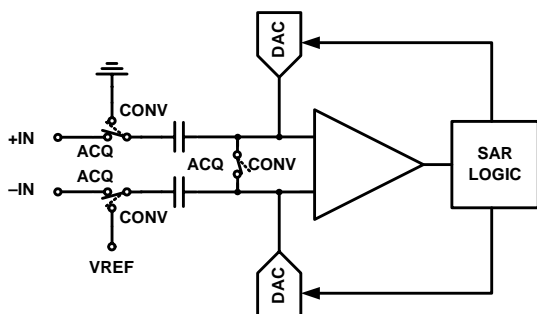

FIGURE 25. SAR ADC ARCHITECTURAL BLOCK DIAGRAM
The ISL267817 is based on a successive approximation register (SAR) architecture utilizing capacitive charge redistribution digital to analog converters (DACs). Figure 25 shows a simplified representation of the converter. During the acquisition phase (ACQ), the differential input is stored on the sampling capacitors (CS). The comparator is in a balanced state since the switch across its inputs is closed. The signal is fully acquired after  $t_{\text{ACQ}}$  has elapsed, and the switches then transition to the conversion phase (CONV) so the stored voltage may be converted to digital format. The comparator will become unbalanced when the differential switch opens and the input switches transition (assuming that the stored voltage is not exactly at mid-scale). The comparator output reflects whether the stored voltage is above or below mid-scale, which sets the value of the MSB. The SAR logic then forces the capacitive DACs to adjust up or down by one quarter of full-scale by switching in binarily weighted capacitors. Again, the comparator output reflects whether the stored voltage is above or below the new value, setting the value of the next lowest bit. This process repeats until all 12 bits have been resolved.